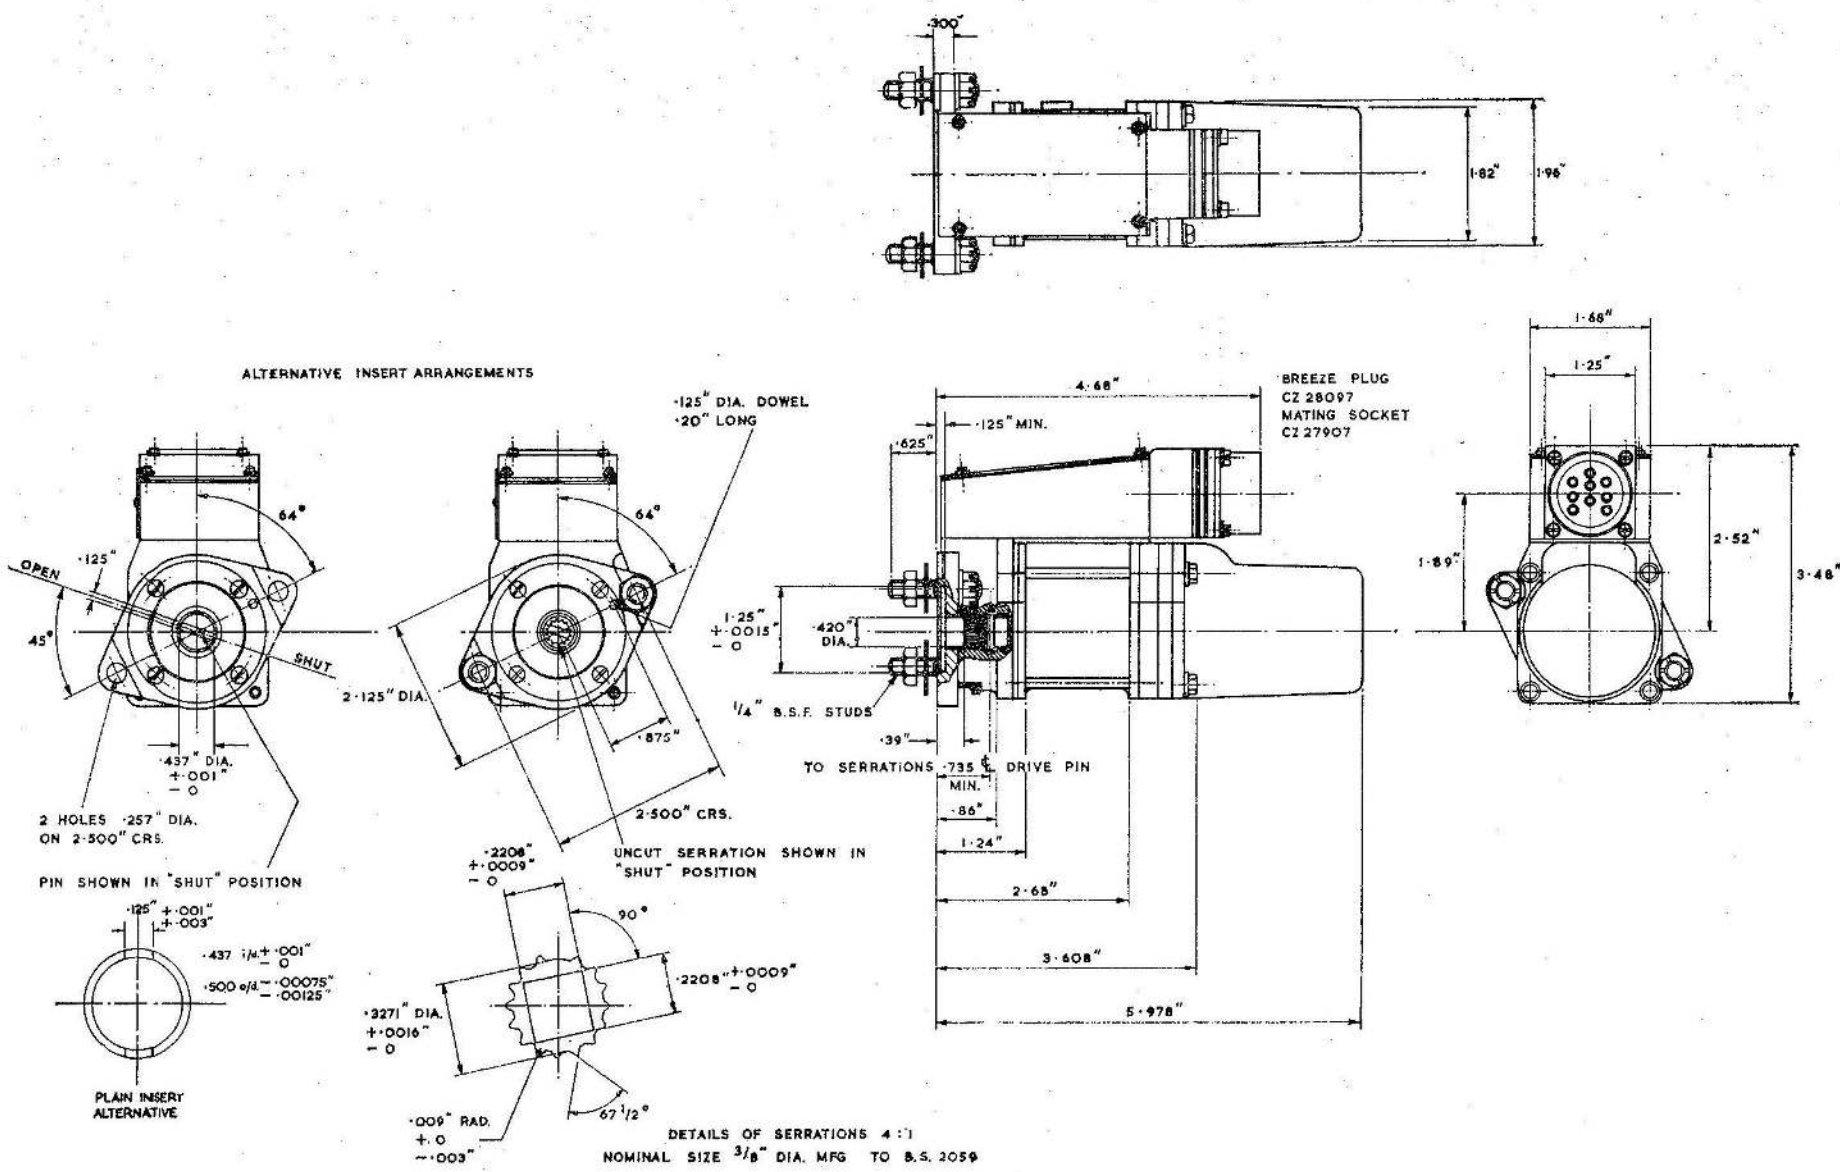

Fig. 2. Installation drawing
5. The output unit comprises an output shaft, electrical connection for external supply, limit switches, cams, open and shut indicators, housing and cover. The output end of the unit contains the drive pin and an insert. The latter can be plain or serrated as shown in Installation drawing Fig. 2.